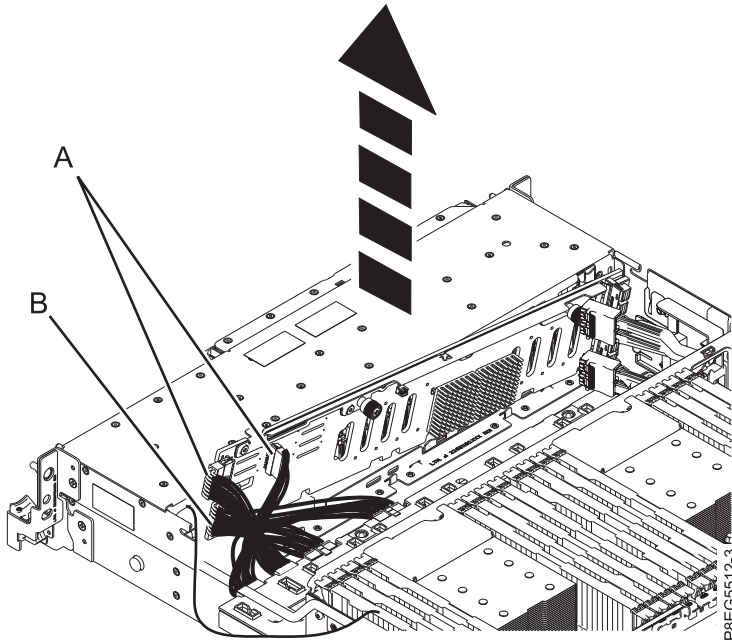

Figure 17. Disconnecting the power, signal, and control panel cables
9. Disconnect the signal and control panel cables (**A**), and the power Y cable (**B**), from the disk drive backplane as shown in Figure 17 on page 19.